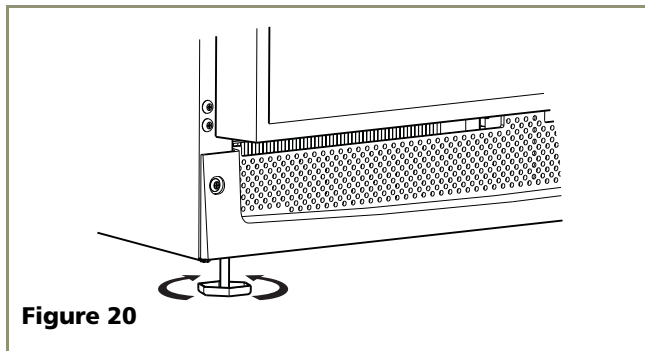

Figure 20
2. If the unit is not level, adjust the feet on the corners of the unit as necessary (see **Figure 20**).